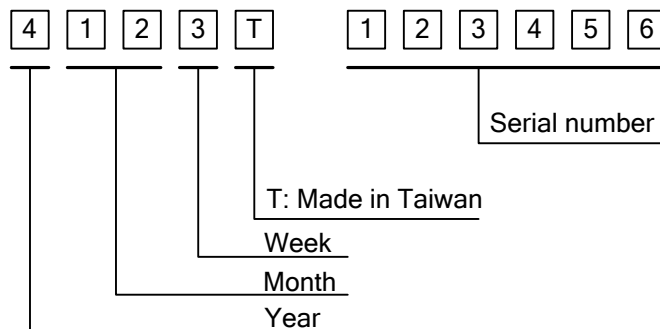

Fig 13.1
- 1) The lot mark is showing in Fig.13.1. First 4 digits are used to represent production lot, T represented made in Taiwan, and the last 6 digits are the serial number.